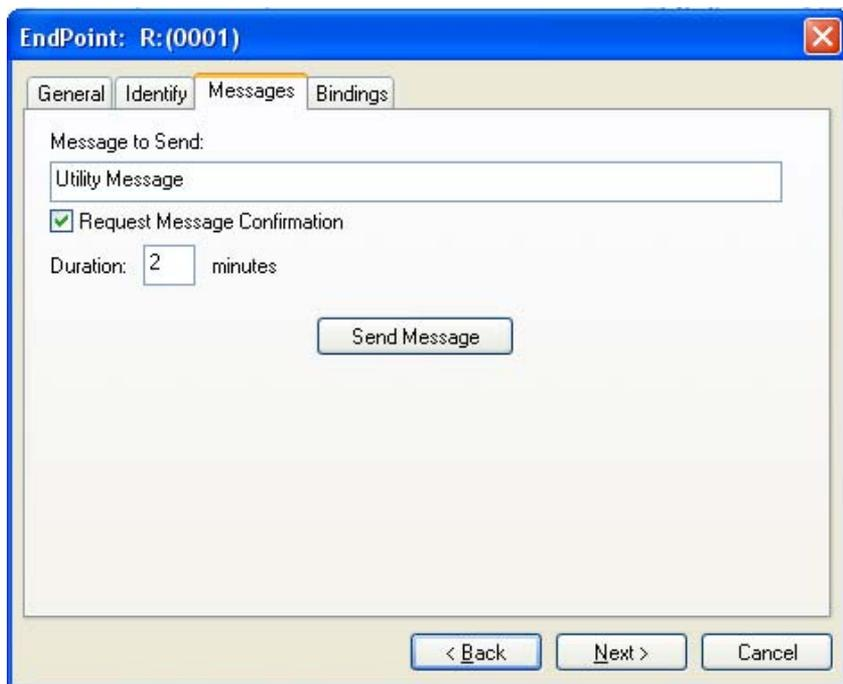

Figure 14. Messages Tab
3. Select the Messages tab as shown in Figure 14.